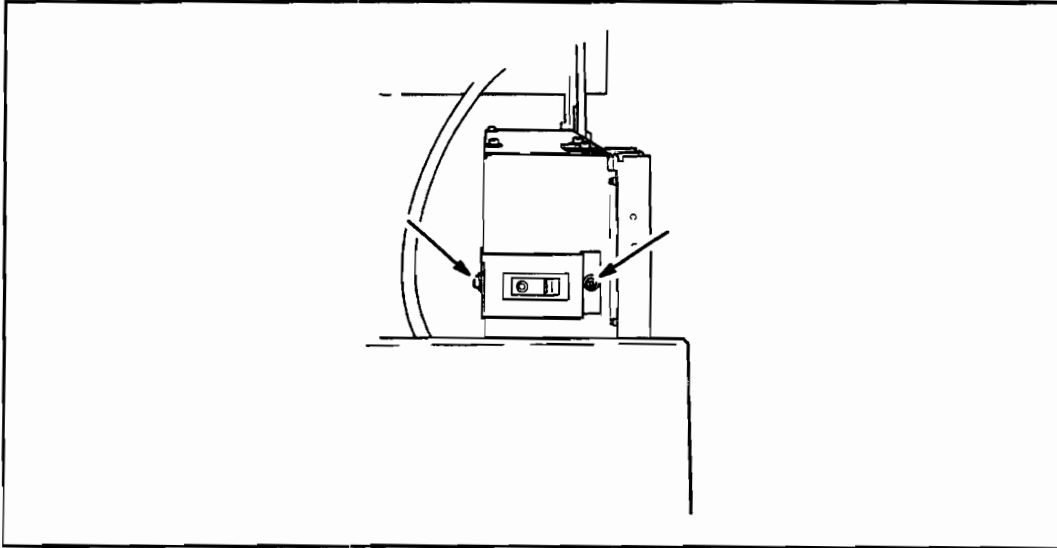

Figure 6-14. Power Switch Removal
- Using a #2 stubby Phillips screwdriver, remove the two switch mounting screws. See Figure 6-14.